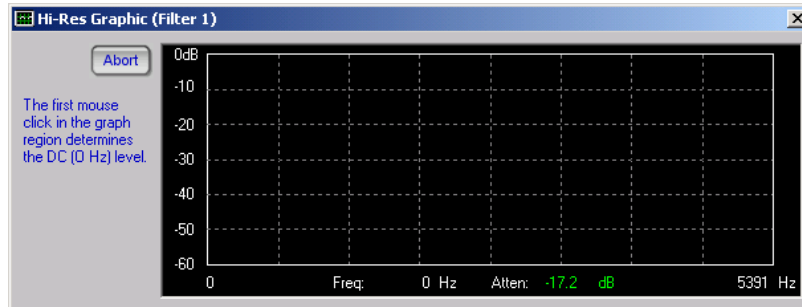
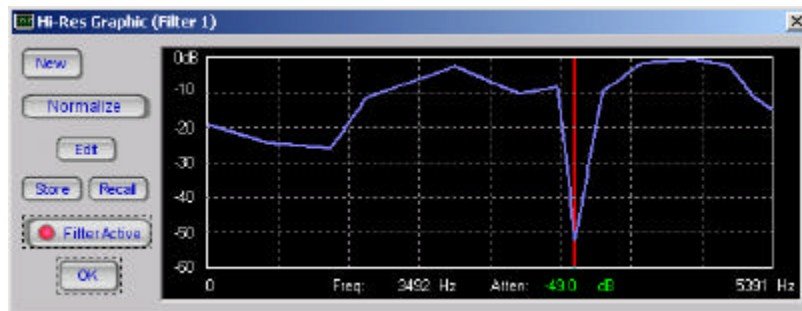

Figure 4-51 New Hi-Res Graphic Filter Display
Figure 4-53 Completed Hi-Res Graphic Draw
5. Complete drawing the filter curve as shown below (Figure 4-53) by drawing points all the way to the right edge of the filter display area.
6. Suppose you decide that you would like to remove the "dip" which occurs in the filter curve at approximately 3500 Hz in Figure 4-53, above. Click on **Edit** to bring up the following display (Figure 4.51):